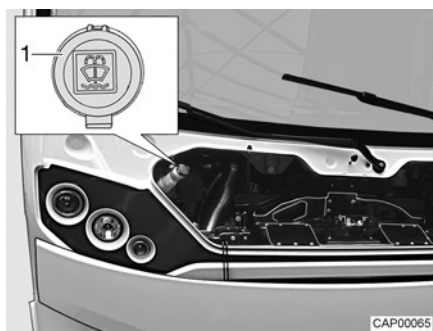

Fig. 8 Filler neck (windscreen washer fluid)
- Open the lid (Fig. 8, 1) on the filler neck of the washer fluid container.